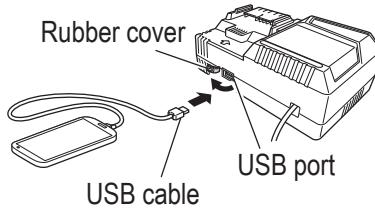

Fig. 23
2. Connect the USB cable. (**Fig. 23**)